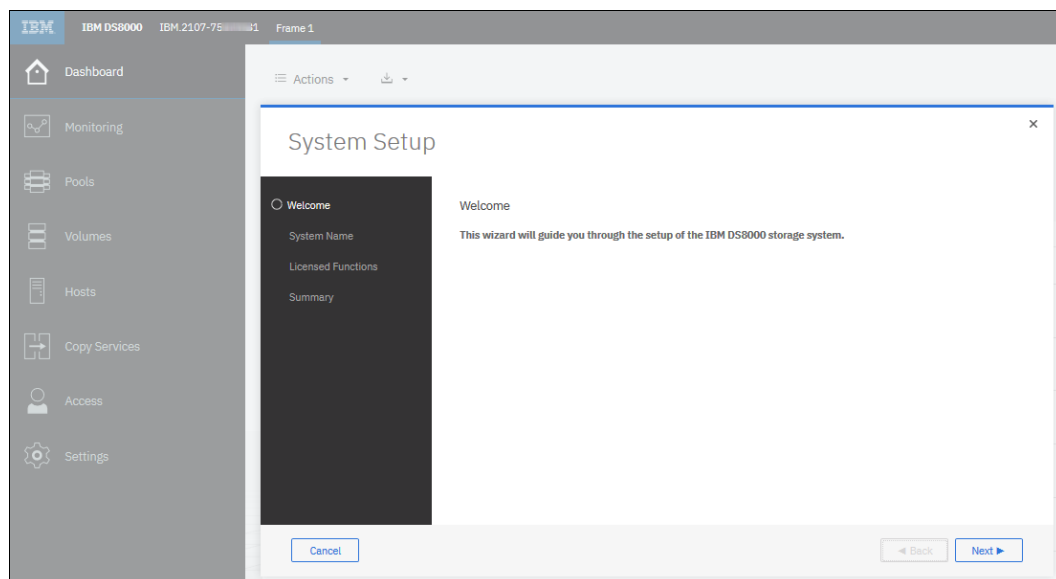

Figure 7-1 System Setup wizard including Licensed Functions activation
3. If this machine is new, a System Setup wizard window opens automatically that guides you through the initial setup and configuration tasks, as shown in Figure 7-1.